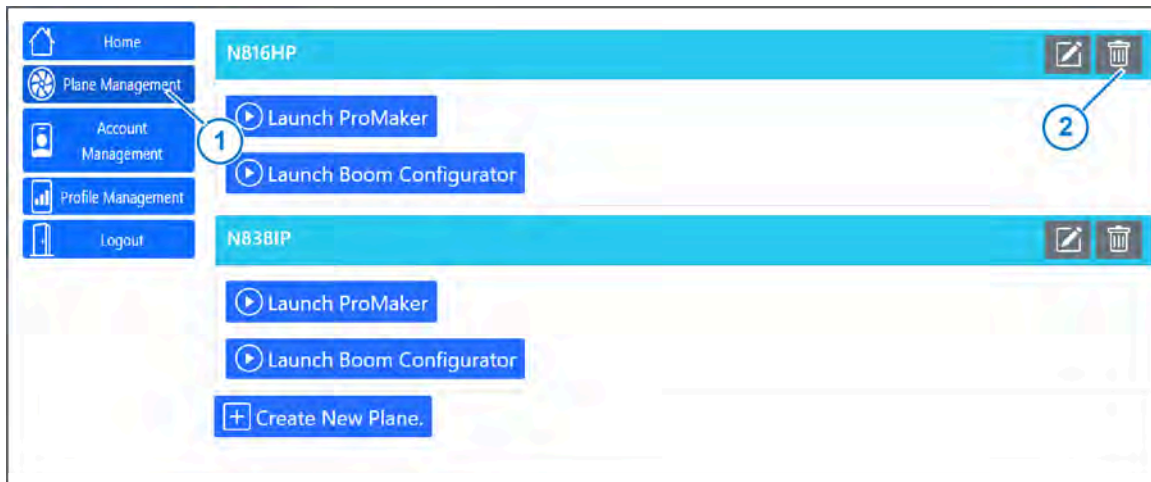

Figure 18: Plane Management
1. Select **Plane Management** (Figure 18, Item 1) from the sidebar.
2. Select the **Delete** icon (Figure 18, Item 2) next to the desired plane.